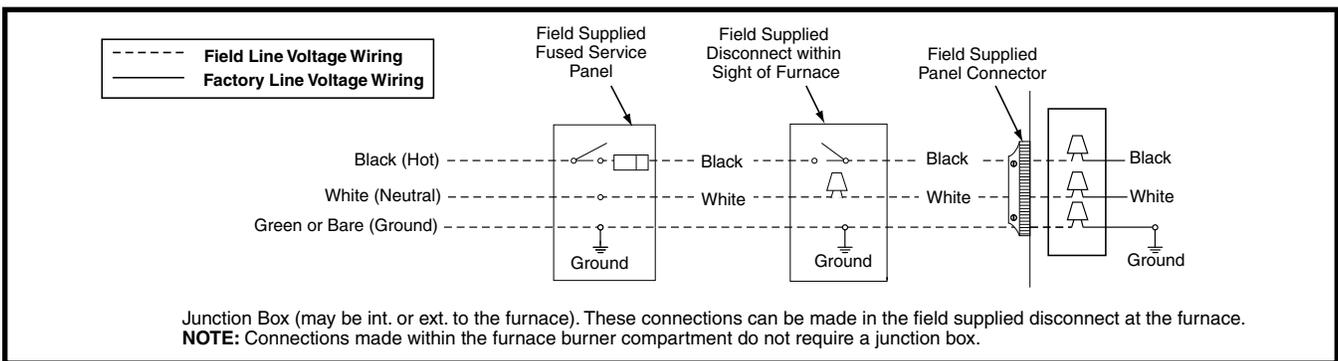

Figure 14. Line Voltage Field Wiring
- An electrical disconnect must be installed readily accessible from and located within sight of the furnace. See Figure 14 or the wiring diagram label inside of the control door. Any other wiring methods must be
- Proper line voltage polarity must be maintained in order for the control system to operate correctly. Verify the incoming neutral line is connected to the white wire and the incoming “hot” line is connected to the black wire. The furnace will not operate unless the polarity and ground are properly connected as shown in Figure 14, \(page 15\).
The operating sequences for the heating, cooling, and fan modes are described below. Refer to the field and furnace wiring diagrams: Figure 14, \(page 15\), Figure 19, \(page 24\), and Figure 20, \(page 25\).
10. Blower off timing of 60, 90, 120, & 180 seconds (depending on the movable jumper setting) begins when the thermostat is satisfied. See Figure 14 (page 16). The control will operate at the selected HEAT speed of 60 seconds, then change to FAN speed for the remaining off delay time. If the blower off delay jumper is not present, the fan should still operate for 120 seconds at the selected HEAT speed. The indoor blower motor is de-energized after a blower off delay as selected by the movable jumper.